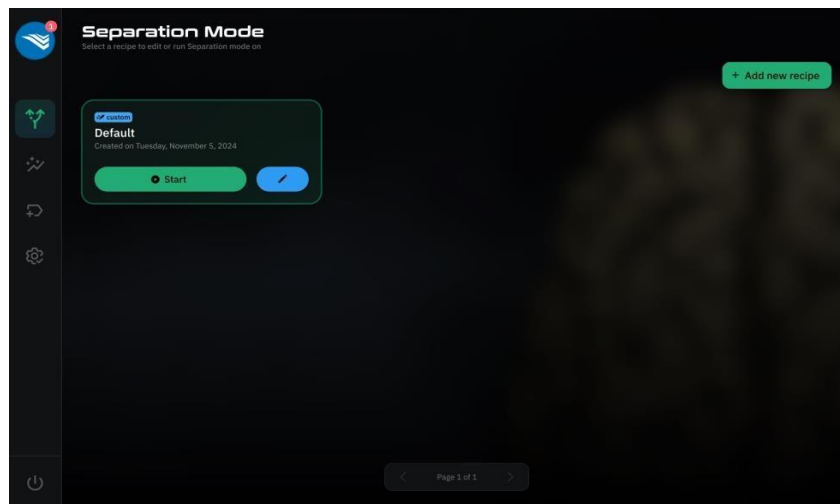

Figure 3.1: Power button location
- If Level One authentication has been disabled, the home page will appear showing Separation Mode once the machine is online and ready (Figure 3.1).
1. Go to the home page (Figure 3.1).